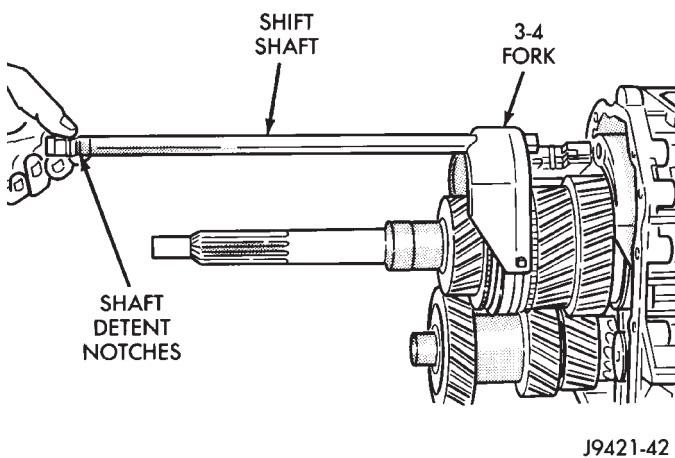

Fig. 23 Shift Shaft Removal
(5) Pull shift shaft straight out of rear housing, shift socket, fifth-reverse fork, and 1-2 fork (Fig. 23).